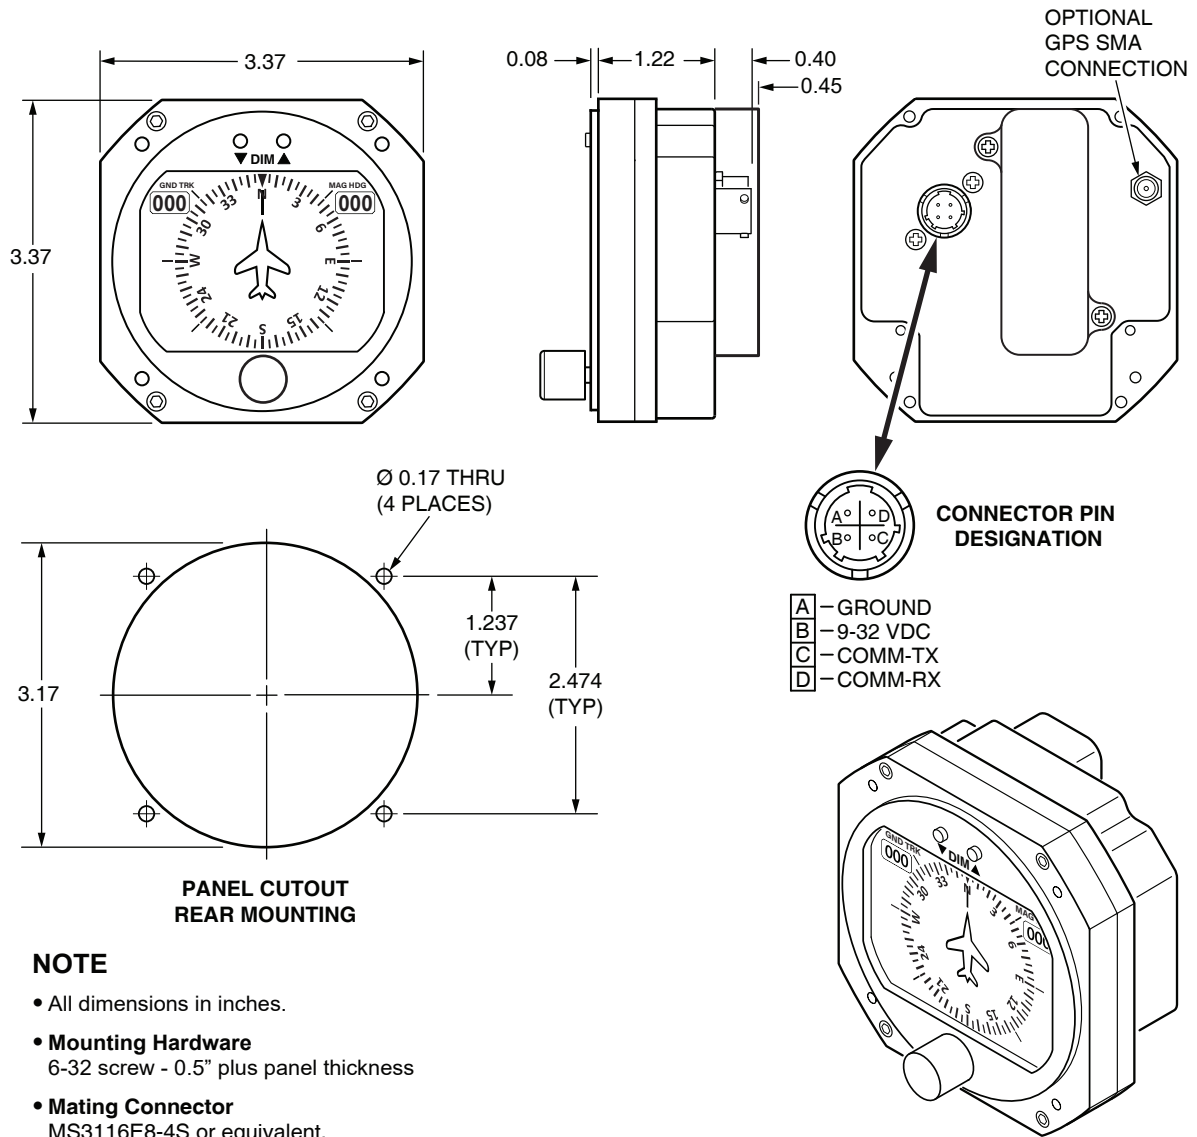

Figure 1.1, General Dimensions
| Figure 1.1, General Dimensions .....                              | 3                |
| DIMENSIONS/PANEL CUTOUT .....       | SEE FIGURE 1.1                                                                                                                                                                                  |
1. The **RCA1510** uses standard panel cutouts. Refer to Figure 1.1 "General Dimensions" for instrument and cutout dimensions.
\*Connect the RS232 GPS output signal to **PIN D** configured for an aviation application at a baud rate of 9600. (See figure 1.1). Do not apply power to COMM pins as damage may occur.
4. Insert instrument into panel cutout (See Figure 1.1) and secure with supplied screws. Use 6-32 *UNC-2b* screws or equivalent. Screw length should not exceed .5 inches plus bezel and panel thickness. Do not tighten.